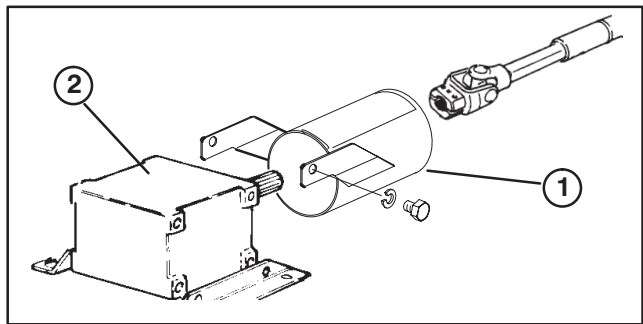

Figure 6
MOUNT PTO SHAFT GUARD AND CONNECT PTO SHAFT TO CUTTING UNIT GEAR BOX (Fig. 6)
1. Remove (2) capscrews and lockwashers securing PTO guard mounting brackets to gearbox (Fig. 6) . Retain fasteners for re-installation.
2. Slide PTO shaft guard onto PTO shaft, positioning guard as shown in figure 6.